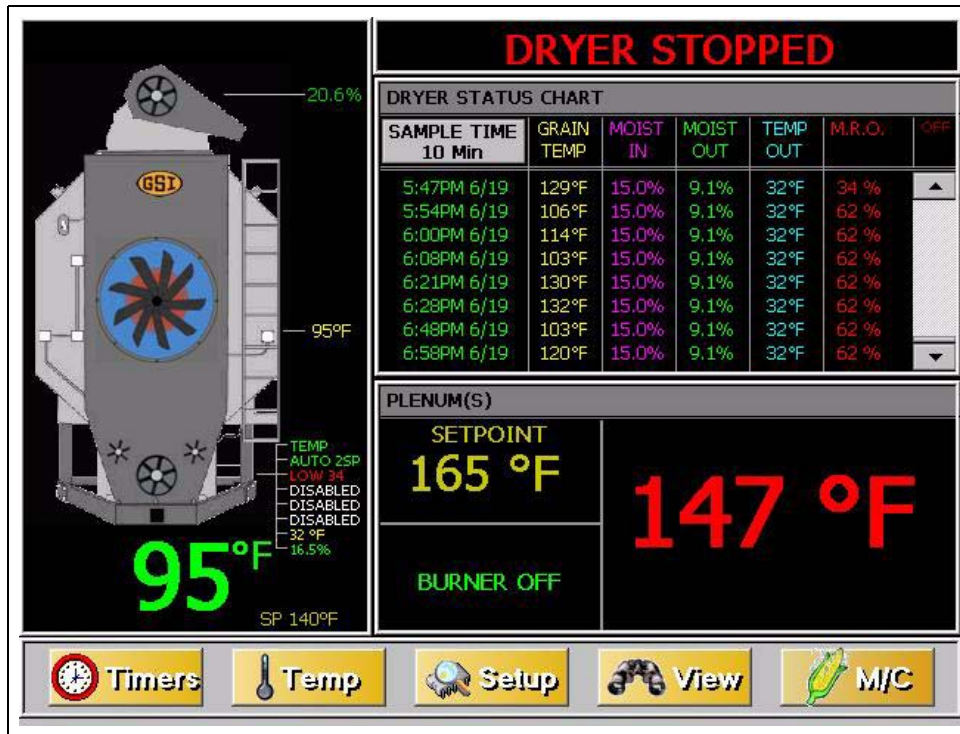

Figure 3E
- Go to the “Default Operation Screen” on the Vision touch control and select the  **Setup** button. (See Figure 3E.)